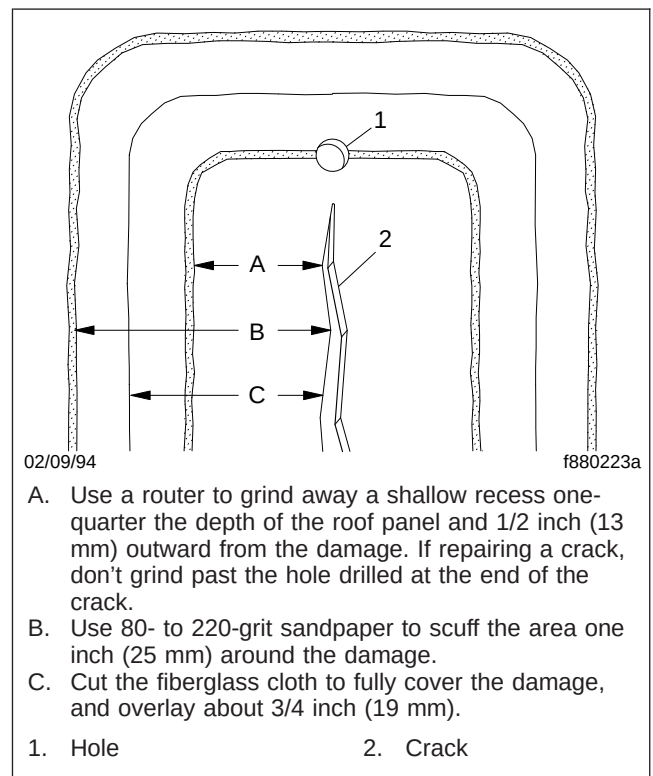

Fig. 5, Preparing the Damaged Area on the Inner Side of the Roof Panel
If repairing a crack, grind outward to the drilled hole at the end of the crack, but not beyond; see Fig. 5, Ref. A.
6. Use 80- to 220-grit sandpaper to scuff an area at least 1 inch (25 mm) away from the fracture on all sides. Be sure to scuff thoroughly, since this will give the patch a surface to which it can stick; see Fig. 5, Ref. B.
9. With a razor-blade knife, cut a section of woven fiberglass cloth to fully cover the crack and to overlay about 3/4 inch (19 mm); see Fig. 5, Ref. C.